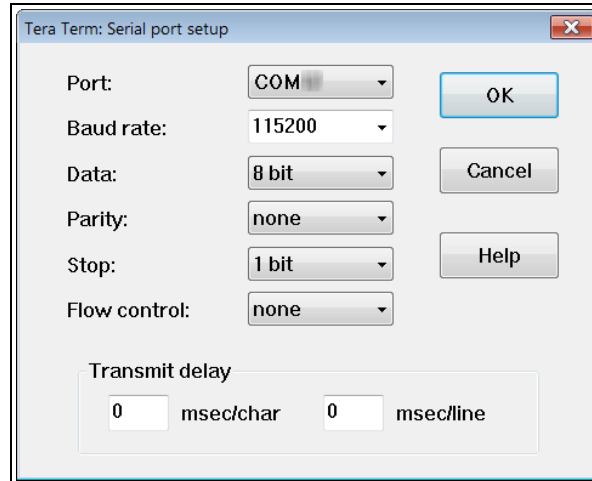

Figure 22: Tera Term: Serial Port Setup dialog box with Default Settings
The **Tera Term: Serial Port Setup** dialog box opens. Figure 22
8. Using Figure 22 as the example, verify the COM port settings are: